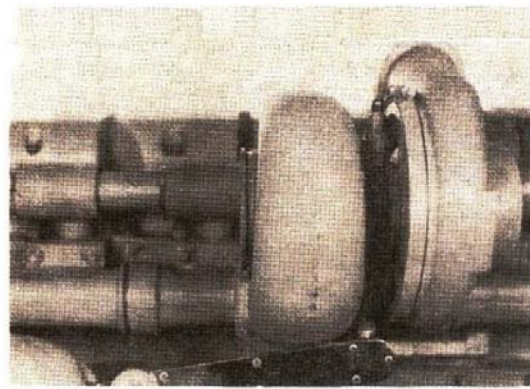

Fig. 14-99, Tighten the turbocharger locknuts
4. Install the locknuts. Tighten alternately and evenly to 22 to 28 ft.lbs (30 to 38 Nom) torque. Fig. 14-99.